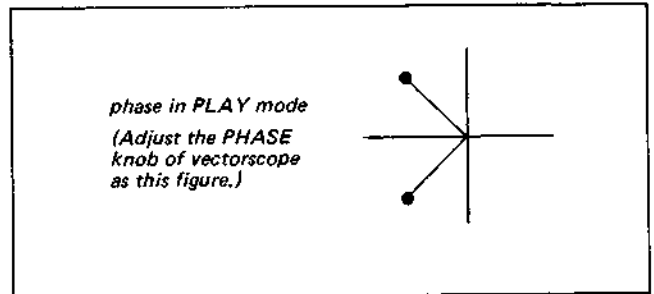
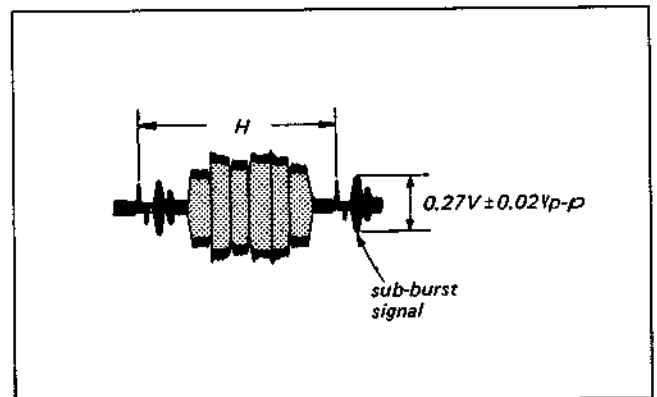

Fig. 4-4-9. Playback phase and sub-burst adjustments
Fig. 4-4-10. Level adjustment of sub-burst signal
- (1) Record the colour bar signal and play back the recorded segment.
- (2) Connect the vectorscope to pin 2 of CN1004 on the YC-6 board.
- (3) Write down the phase of the burst signal in the playback. (See Fig. 4-4-9.)
- (4) Set up the STILL mode and adjust RV5 so that the burst signal phase matches the phase in the playback written down in Step (3). (See Fig. 4-4-9.)
- (5) Connect the oscilloscope to pin 2 of CN1004 on the YC-6 board.
- (6) Adjust RV6 for the sub-burst signal level of $0.27 \text{ V} \pm 0.02 \text{ Vp-p}$. (See Fig. 4-4-10.)